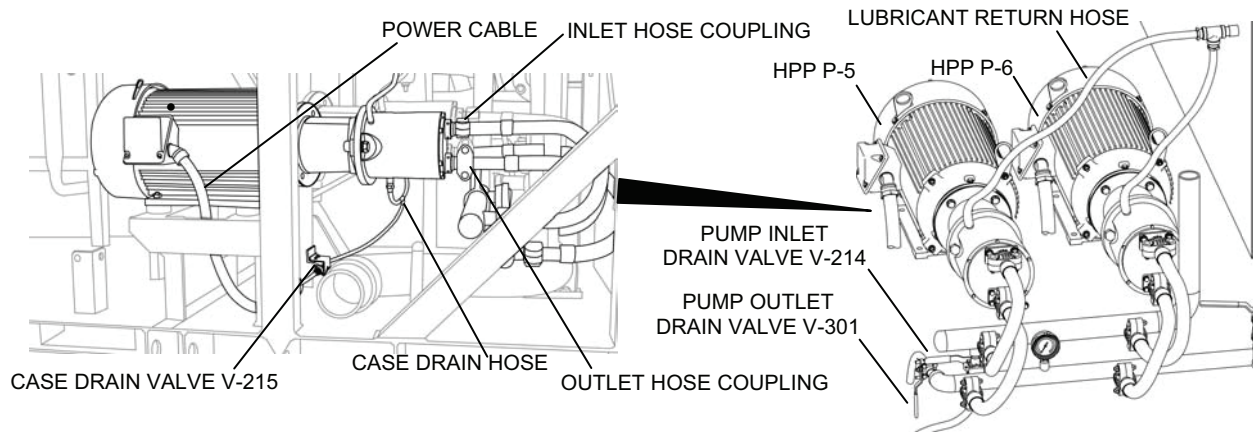

Figure 16. Disconnecting Hoses from Metal-Body High-Pressure Pump.
2. Drain the metal-body pumps and the piping to the pumps as follows (see Figure 16):
3. Disconnect the hoses from the metal-body pump as follows (see Figure 16):